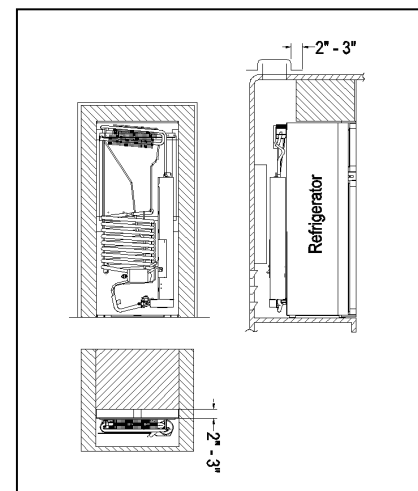

FIG 3
CSA International certification allows the refrigerator to have zero (0) inch minimum clearance at the sides, rear, top, and bottom. See FIG 3
- Cut out a section in the roof. Refer to the roof vent instruction manual for the required dimensions. When doing so, observe the information in the chapter "Preparing the installation" on page 5, FIG 3.